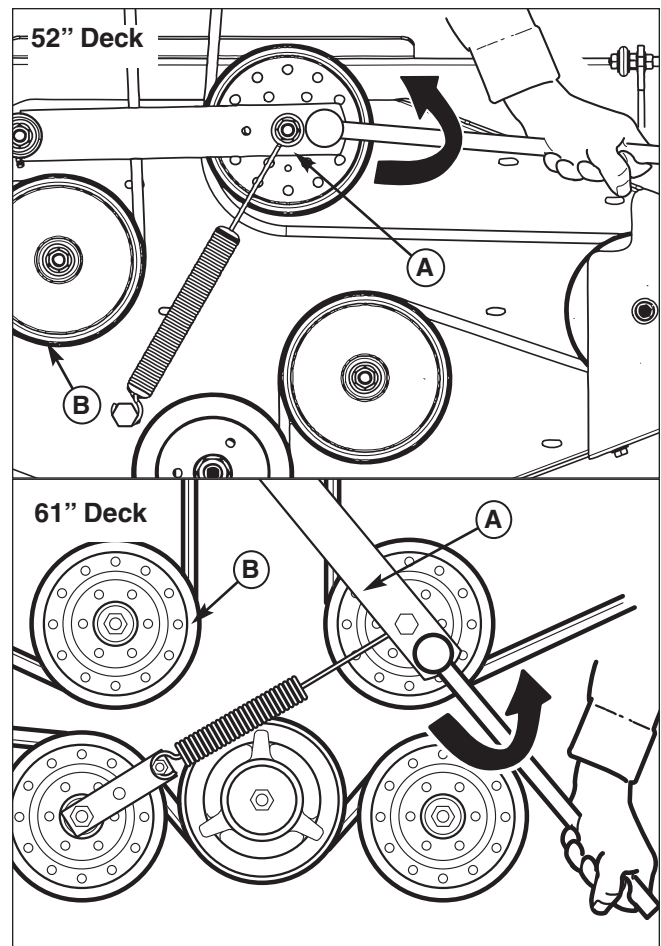

Figure 44. Mower PTO Belt
2. Using a 1/2" breaker bar, place the square end in the square hole located in the end of the idler arm (A, Figures 44). Carefully rotate the breaker bar counter-clockwise, which will relieve the tension on the belt exerted from the idler arm.
3. Slide the drive belt over the edge of the stationary idler pulley (B). Carefully release the tension on the breaker bar until the idler arm stops against the center spindle pulley.
5. Install the drive belt on the PTO pulley, the spindle pulleys and all idler pulleys except the stationary idler pulley (B, Figure 44). Carefully rotate the breaker bar counter-clockwise and install the belt on the stationary idler pulley (B). Carefully release the tension on the breaker bar.